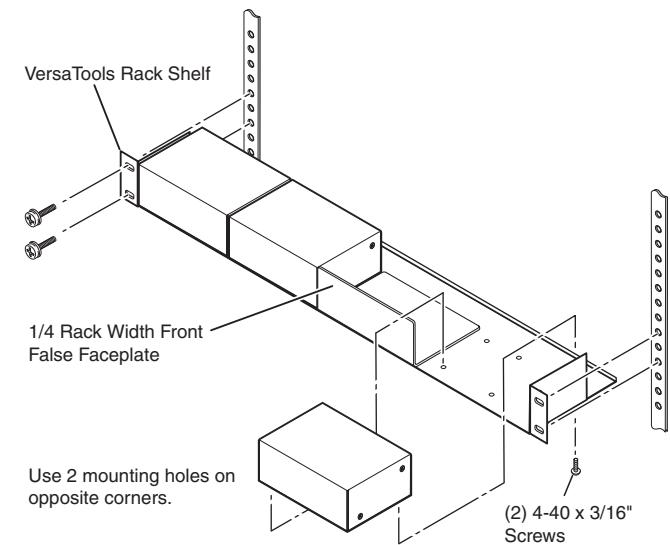

Figure 3 — Mounting the MDA on a VersaTools shelf
(figure 3 on the next page)
2. Mount the MDA using two 4-40 x 3/16" screws in opposite (diagonal) corners to secure the MDA to the shelf (figure 3 on page 3).